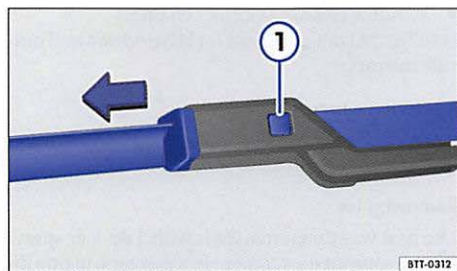

Fig. 158 Changing the windshield wiper blades.
- Press and hold the release button $\Rightarrow$ fig. 158 ① and pull the wiper blade off in the direction of the arrow.